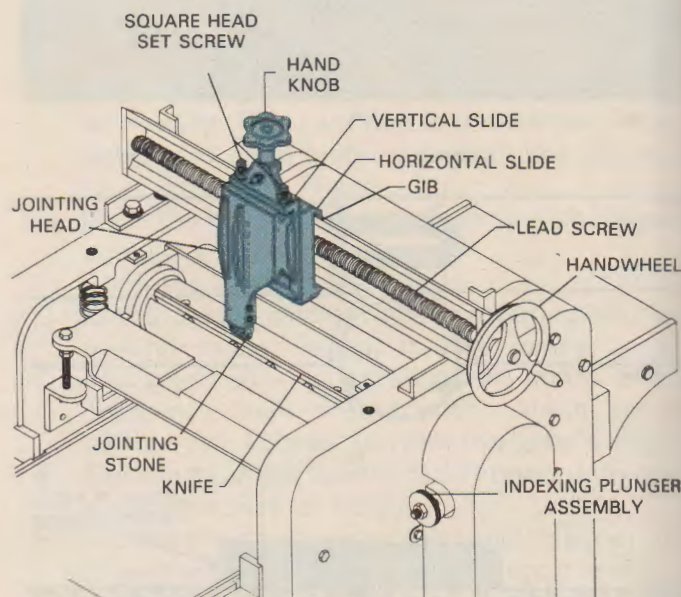

Fig. 23-29. Jointing restores sharpness to dull planer knives. This attachment is bolted to the machine. (Powermatic)
3. Position the jointing attachment on the machine, Fig. 23-29. On some machines, this attachment is permanently mounted in the machine.